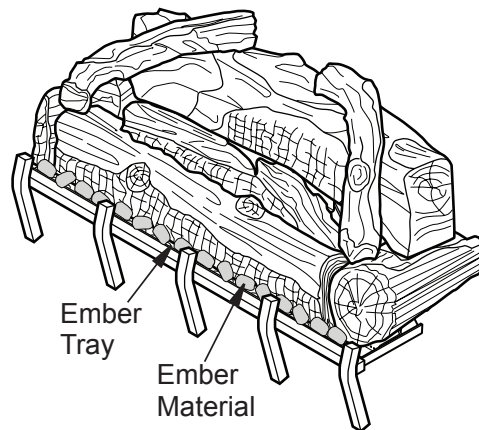

Figure 29 - Applying Ember Material
4. Break ember material into quarter sized pieces and place a single layer along the full length of ember tray to hide bottom edge of base log (see Figure 29).